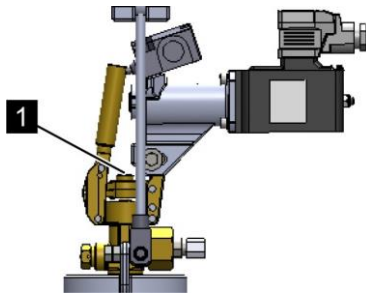

Fig. 134: Valve seal seat
4. ➤ Check whether the tightening torque for the pre-tension of the valve seat seal (Fig. 134/1) is 12 – 13 Nm (8.85 to 9.59 lb·ft) and correct if necessary.